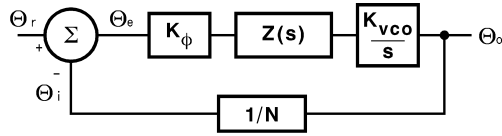
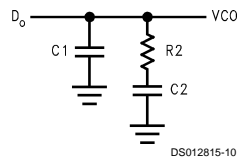

FIGURE 2. PLL Linear Model
FIGURE 3. Passive Loop Filter
A linear control system model of the phase feedback for a PLL in the locked state is shown in Figure 2. The open loop gain is the product of the phase comparator gain ( $K_\phi$ ), the VCO gain ( $K_{vco}/s$ ), and the loop filter gain  $Z(s)$  divided by the gain of the feedback counter modulus ( $N$ ). The passive loop filter configuration used is displayed in Figure 3, while the complex impedance of the filter is given in Equation (2).